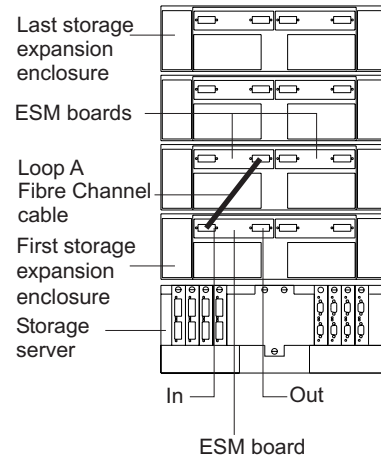

Figure 29. Connecting two storage expansion enclosures into drive loop A
1. Connect the first two storage expansion enclosures to drive loop A, as shown in Figure 29.